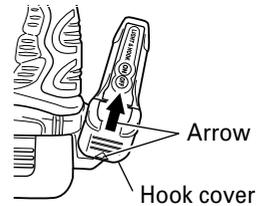

Fig. 11
Remove the hook cover by pushing in the direction of the arrow. (Fig. 11)
- (3) Align the indentation in the hook main body with the protuberance of the hook cover, press the hook cover in the direction opposite to that of the arrow shown in Fig. 11 and then tighten the screw. Use commercially available AAAA batteries (1.5 V).